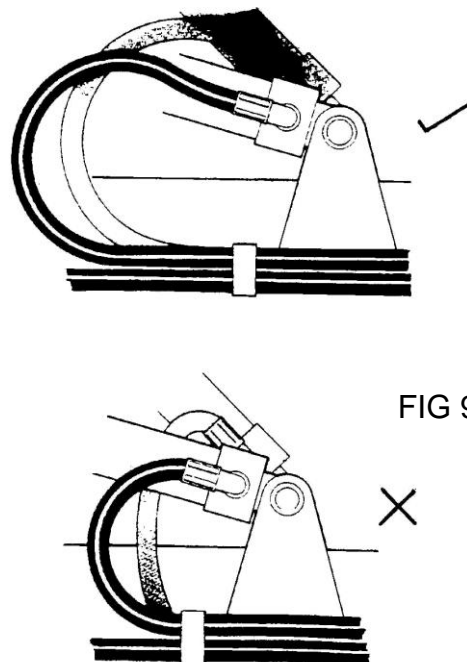

FIG 9
- b Always allow enough hose radius for free movement (see Fig 9).